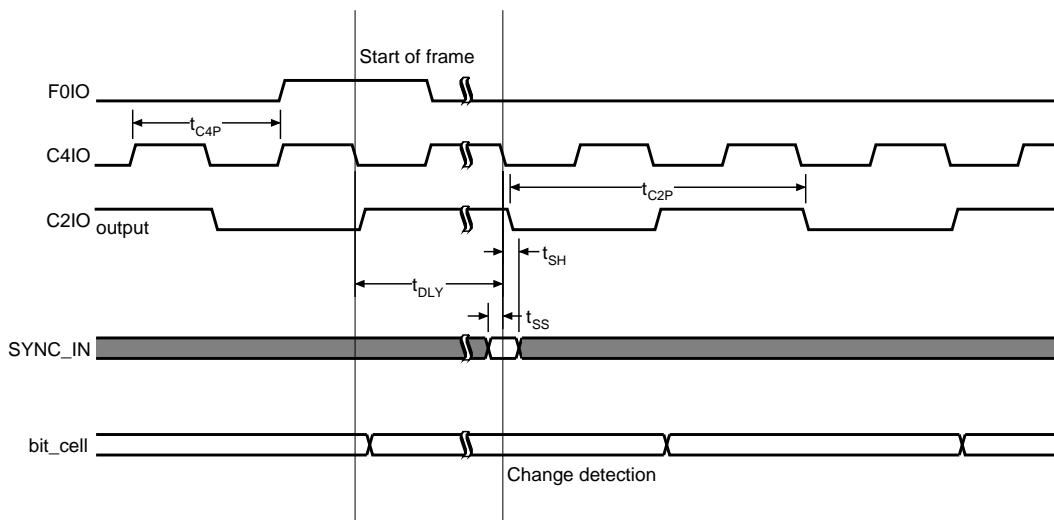

Figure 6.11: Timing specification of the SYNC\_IN change detection
The delay time  $t_{DLY}$  is specified in Figure 6.11 and Table 6.6. Its maximum value is  $t_{DLY,max} = 16 \cdot t_{C4P}$ .
**Table 6.6:** Symbols of the SYNC\_IN change detection timing specification in Figure 6.11